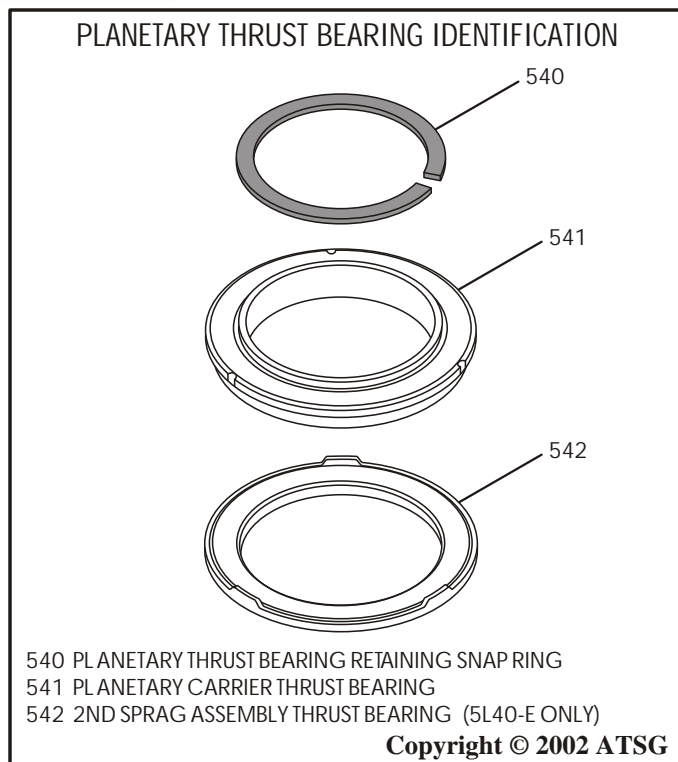

Figure 154
10. Thrust bearing identification for these two bearings is provided in Figure 154.